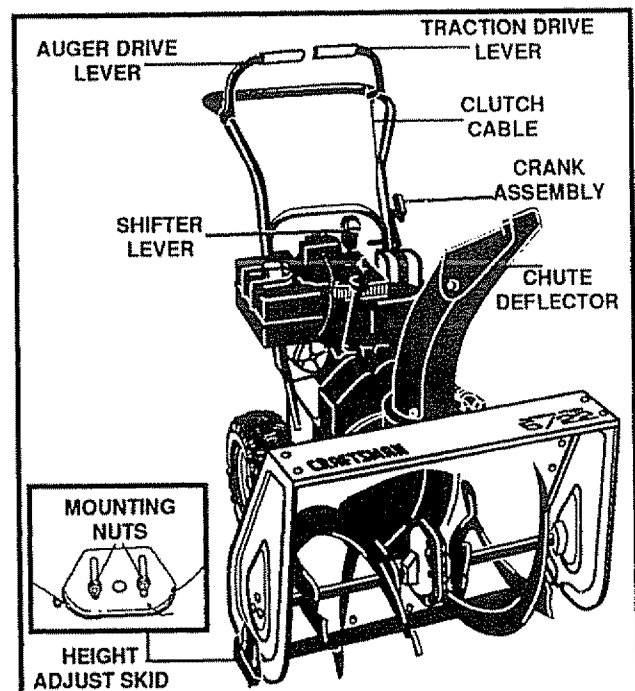

FIG. 2
Figure 2 shows the snow thrower completely assembled.
- Your snow thrower is equipped with height adjust skids (See Fig. 2) on the outside of the auger housing. To adjust the skid height for different conditions, see To Adjust Skid Height paragraph on page 19.